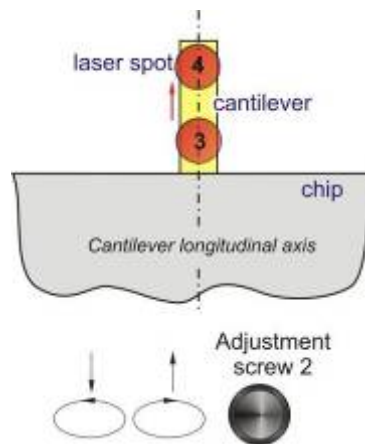
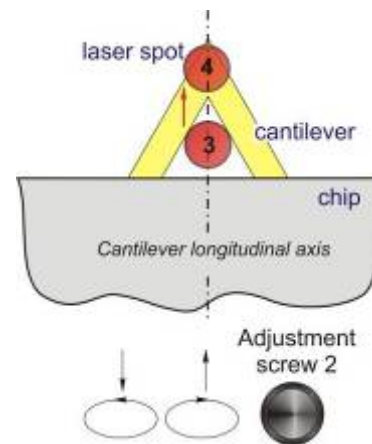
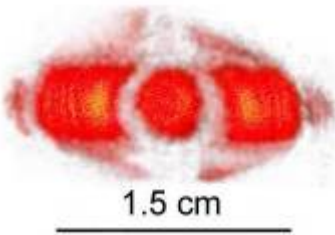

Fig. 2-94
Fig. 2-95
Fig. 2-96
5. After the ray has been directed onto a longitudinal axis (position 3, Fig. 2-94, Fig. 2-95), the laser spot should be placed to the very end of the cantilever (position 4), using the screw 2 for this purpose
- In case of a rectangular cantilever, after you've directed the ray to the longitudinal axis of the cantilever (Fig. 2-94), the image of the spot at the screen will look approximately the same as it's shown in Fig. 2-96. And it doesn't matter if the spot is near to the very end of the cantilever or it's rather far from it. That's why the image at the screen, like it's shown at Fig. 2-96, only shows that with the help of screw 1 in a lateral direction it's managed to place the ray to the approximate middle of the cantilever;
- Rotating the screw 2 clockwise, you should move the laser spot closer to the end of the cantilever as it's shown schematically at the Fig. 2-94.
- *The same as in case with a rectangular cantilever, you should move the ray along the lateral axis, in the direction of the cantilever's end, rotating screw 2 clockwise (it's shown schematically at Fig. 2-95);*